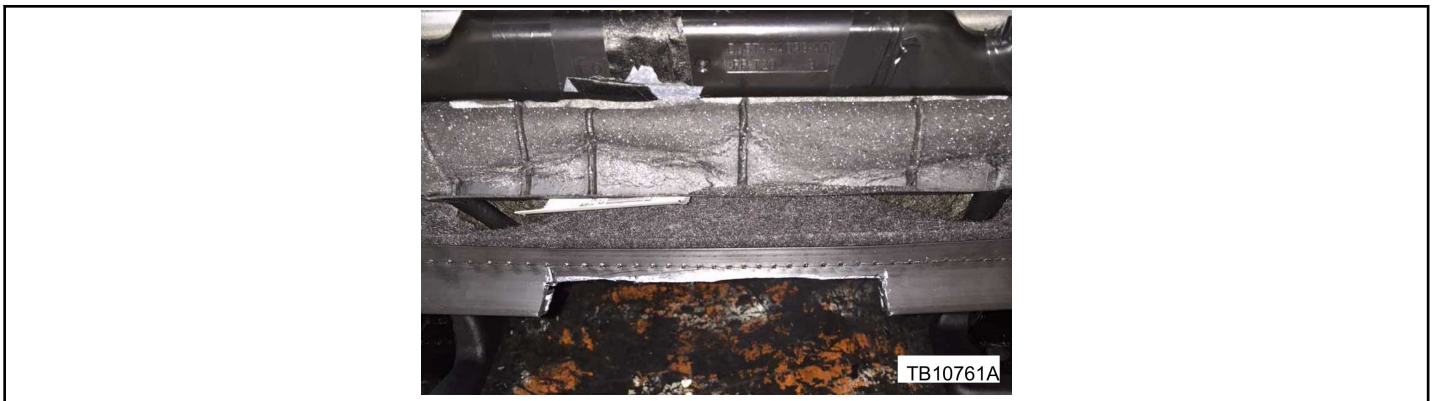

Figure 3 - Article 15-0154
- 6. Use diagonal cutting pliers or equivalent to remove the plastic J-clip section between these two new marks on both J-clips. (Figure 3)